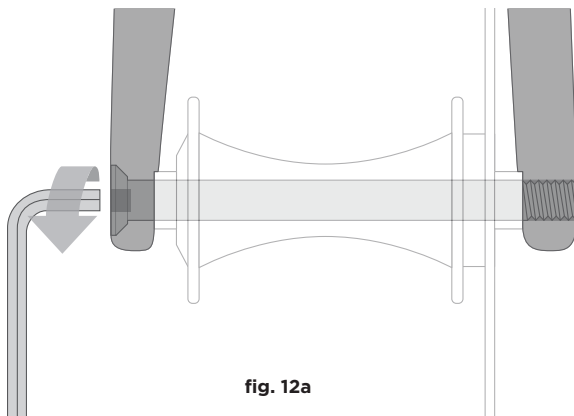
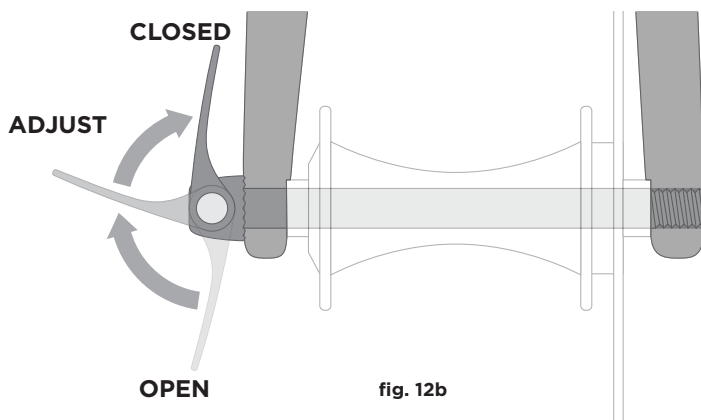

fig. 12a
fig. 12b
a. Adjusting the thru axle mechanism (fig. 12a & 12b)
The thru axle is inserted through the unthreaded hole in the frame or fork's dropout, through the wheel hub, and is threaded directly into the opposing dropout by tightening the thru axle. Common installation methods may use an Allen hex key (fig. 12a) or a cam lever (fig. 12b). Please refer to the manufacturer's instructions for specific information about your thru axle's operation, including correct torque specifications or lever adjustment information.
(4) If your bike has a thru-axle front wheel mounting system (figs. 12a & 12b), loosen and remove the thru axle according to the manufacturer's instructions, then remove the front wheel.
(c) With a thru axle system, tighten the thru axle (figs. 12a & 12b) according to the manufacturer's instructions.
(5) If your bike has a thru-axle rear wheel mounting system (figs. 12a & 12b), loosen and remove the thru axle according to the manufacturer's instructions.
(6) Push the rear wheel forward far enough to be able to remove the chain from the rear sprocket, then lift the rear wheel off the ground a few inches and remove it from the rear dropouts.
- (c) With a thru axle system, tighten the thru axle (figs. 12a & 12b) according to the manufacturer's instructions.